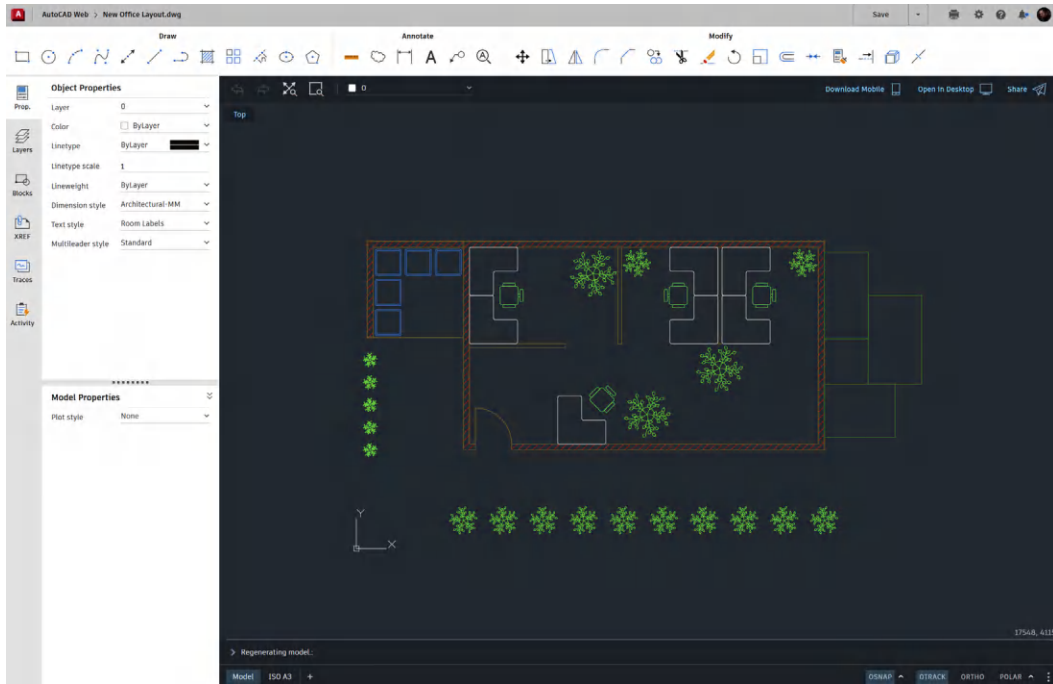

Figure 15.13: The Light theme when used in AutoCAD Web
7. Upon clicking on the **Preferences** tab on the left of the dialog box, you will see that you can update **Theme**. The default theme is **Dark**. Select **Light** to make for a lighter interface in the browser, and then click on **Done**. As shown in *Figure 15.13*, you will notice that the menus are lighter, but the drawing area continues to use the darker theme. The **Light** theme makes for easier reading of the menus in AutoCAD Web.